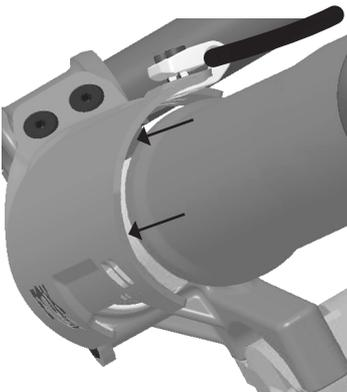
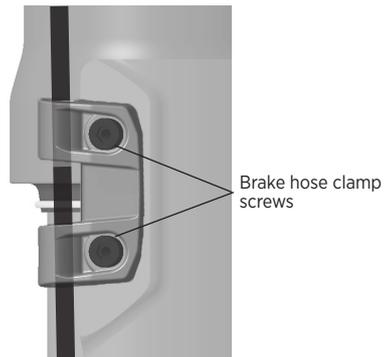

Figure 10: Even gap on inside of fork guard to prevent rubbing (top view)
Figure 11: Torque the brake hose clamp screws
6. Finally, check that the brake hose and clamp are now in a position that allows an even gap all the way around the inside of the fork guard to prevent any rubbing or friction (Figure 10). Use a 2.5 mm hex bit and a torque wrench to tighten the two brake hose clamp screws to 0.9 N·m (8 in-lb). (See Figure 11.)